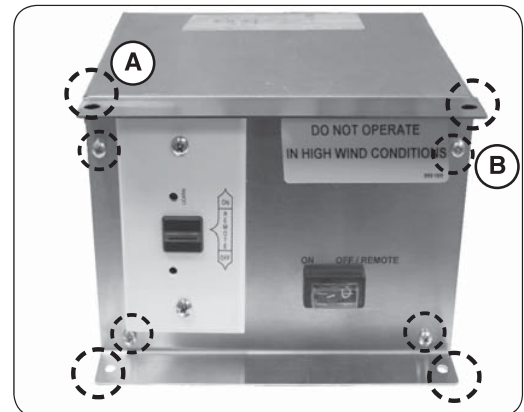

Fig. 34-2 Remove screws to access fuse
1. Remove the 4 screws on the control box that are securing it into the enclosure side wall (see Fig. 34-2, A).
2. Slightly pull the control box forward in the cutout. Using a Phillips screwdriver, remove the 4 screws that are securing the control panel into the box (see Fig. 34-2, B).